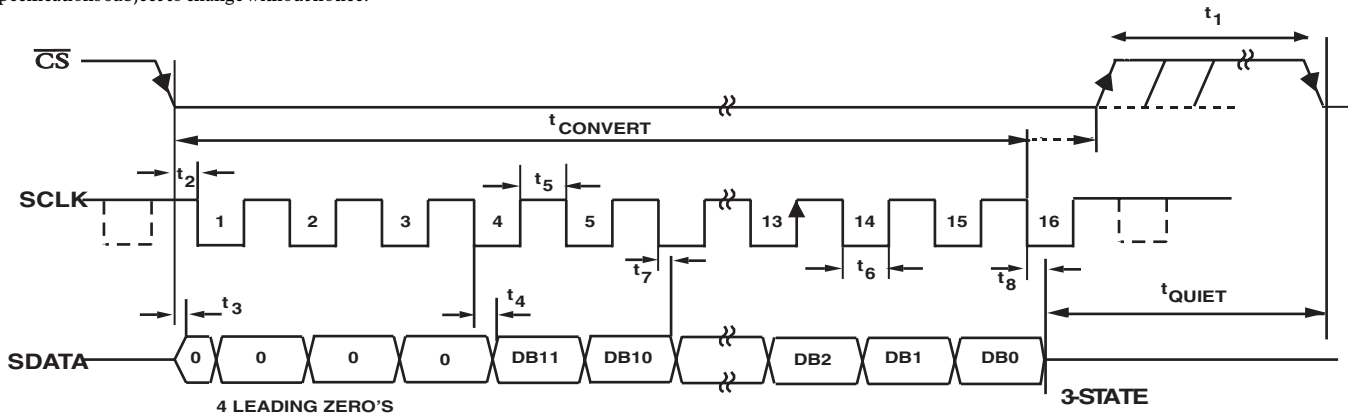

Figure 1. AD7450A Serial Interface Timing Diagram
- ²See Figure 1, Figure 2 and the 'Serial Interface' section.